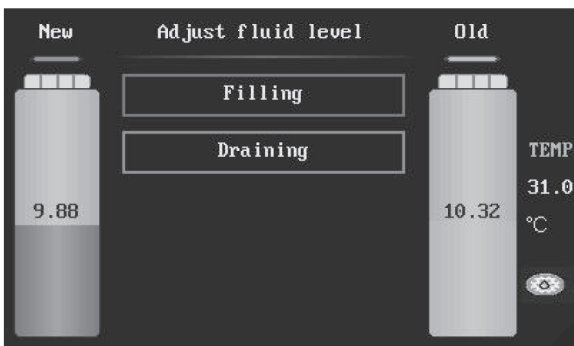

Fig.25
- 1) Enter the menu of Adjust fluid level, select "Filling", it indicates that the fluid is being filled into the transmission. The maximum of the adjustment is the fluid amount inside new tank. The interface is as shown in Fig.25.
- 1) Enter the menu of Adjust fluid level, select 'Draining', it indicates that the fluid inside transmission is being drained, as shown in Fig.25.